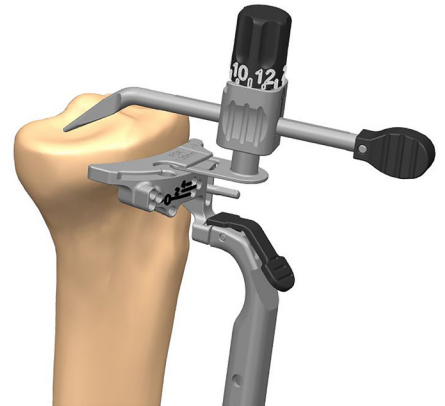

Figure 82
3. Insert Adjustable Footed Tibia Stylus into the saw slot of the Cutting Guide (Figure 82).